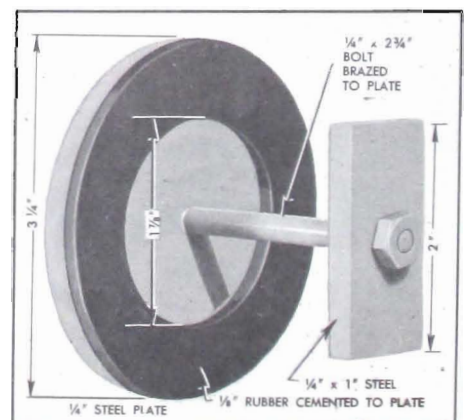

Figure 5-55—Plate and Washer for Pump Test
1. Prepare a plate with rubber washer to close the opening in converter pump hub, as shown in Figure 5-55. The bolt head should be brazed to the plate to seal the